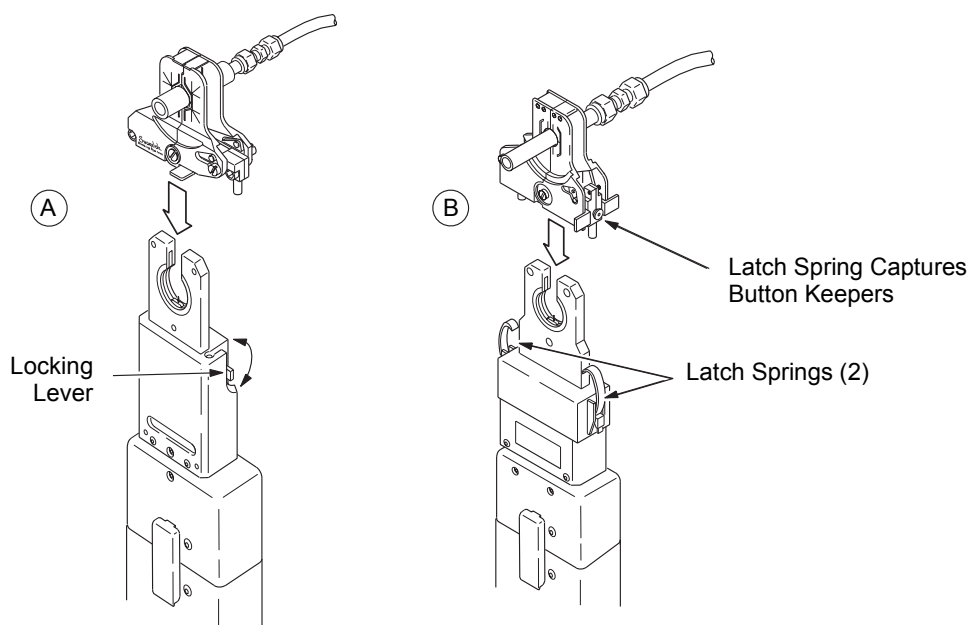

Figure 19 Placing the Fixture on the Micro Weld Head
- On the Series 4 Micro Weld Head, make sure the fixture is firmly seated. Rotate the locking lever 90° to secure the fixture to the micro weld head. See Figure 19(A).
- On the Series 8 Micro Weld Head, engage the two latch springs over the button keepers on the sides of the fixture and close the latch levers. See Figure 19(B).